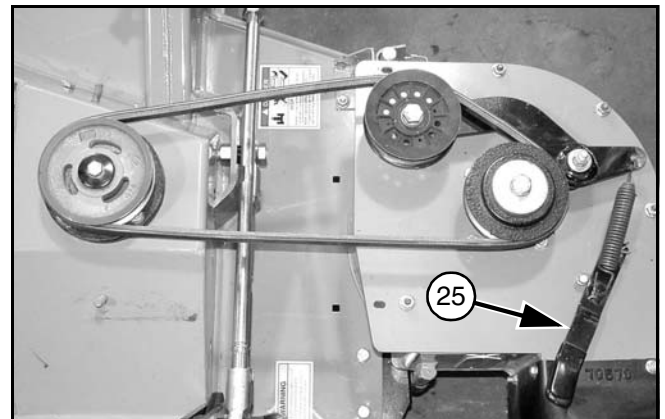

Figure 8. Belt Tension lever Engaged
2. Engage belt tension lever (25) as shown in Figure 8.